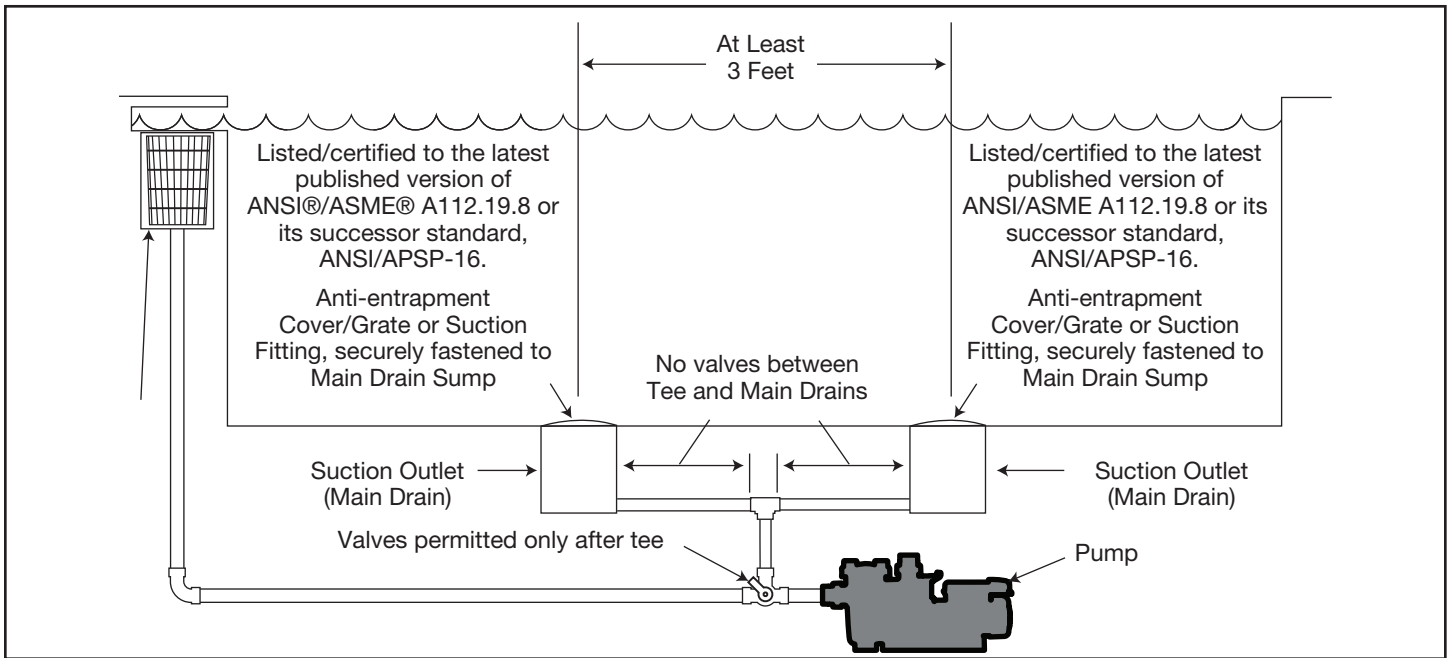

Figure 1. Proper Pump Suction Plumbing
Number of Suction Outlets Per Pump - Provide at least two (2) hydraulically-balanced suction outlets, with covers, as suction outlets for each circulating pump suction line. The centers of the suction outlets (suction outlets) on any one (1) suction line must be at least three (3) feet apart, center to center. See Figure 1.
The system **must** be built to include at least two (2) suction outlets (drains) connected to the pump whenever the pump is running. However, if two (2) suction outlets run into a single suction line, the single suction line may be equipped with a valve that will shut off both suction outlets from the pump. The system shall be constructed such that it shall not allow for separate or independent shutoff or isolation of each drain. See Figure 1.